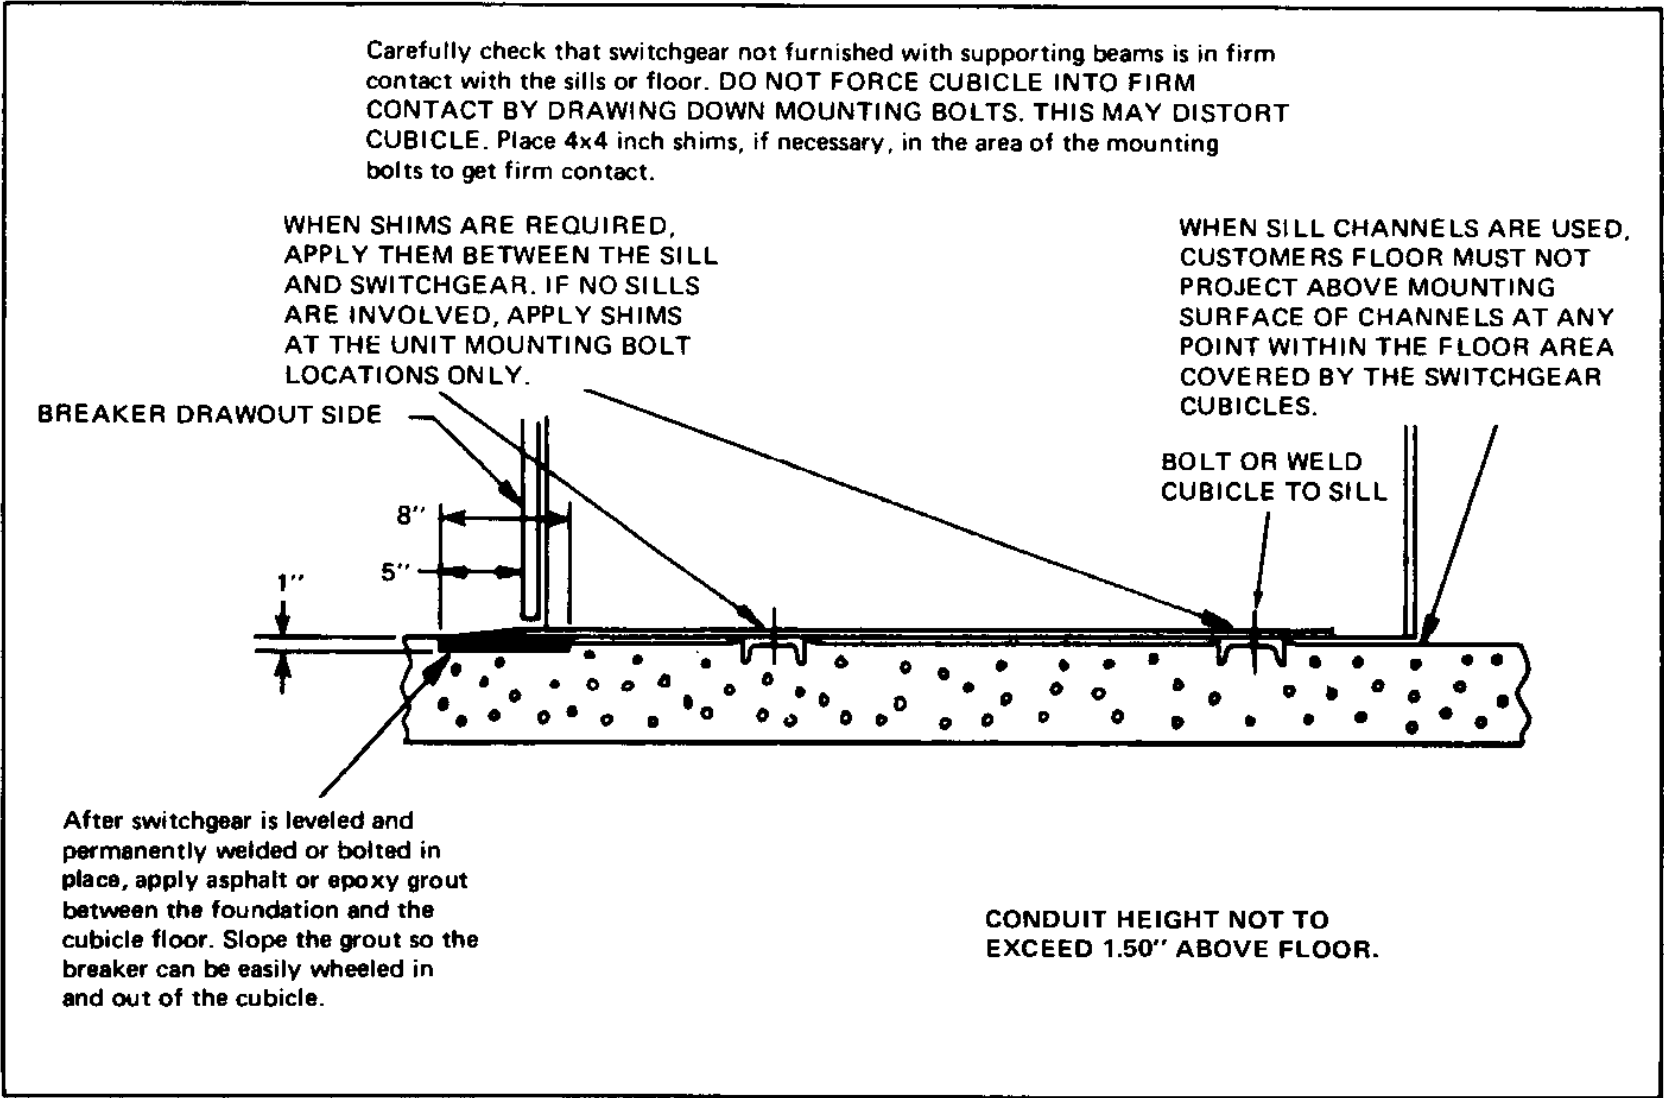

Figure 15. Setting Indoor Cubicles on Foundation
Before setting and erecting the cubicles, determine the correct locations of each shipping group and sequence of installation on the general arrangement drawing. Sweep the mounting surfaces to remove all dirt. Refer to Figures 15 through 21 for additional installation instruction.
Before setting and erecting the cubicles determine the correct locations of each shipping group on the general arrangement drawing. Sweep the mounting surfaces to remove all dirt. Refer to Figures 15 through 21 for additional installation instructions.
1. The switchgear equipment represented was accurately aligned on level steel bed plates at the factory. This care insures proper operation and fit of mating parts. Supporting surfaces for the switchgear at each mounting bolt location must be level and in the same plane. There must not be any projection above this plane within the area covered by the switchgear cubicles. If customers floor or grouted sill channels do not meet this requirement it will be necessary to shim in the following manner. The four (4) anchor bolt locations in each cubicle must freely rest in firm contact with the mounting support surfaces. There must not be any projection or obstruction in other areas which may distort cubicle. Do not force cubicle into firm contact by drawing down mounting bolts as such drastic means will distort cubicles. Add 4" square shims adjacent to anchor bolts until firm contact is achieved. Check each bolt location, 4 per cubicle, and tighten bolts. (See Figure 15.)